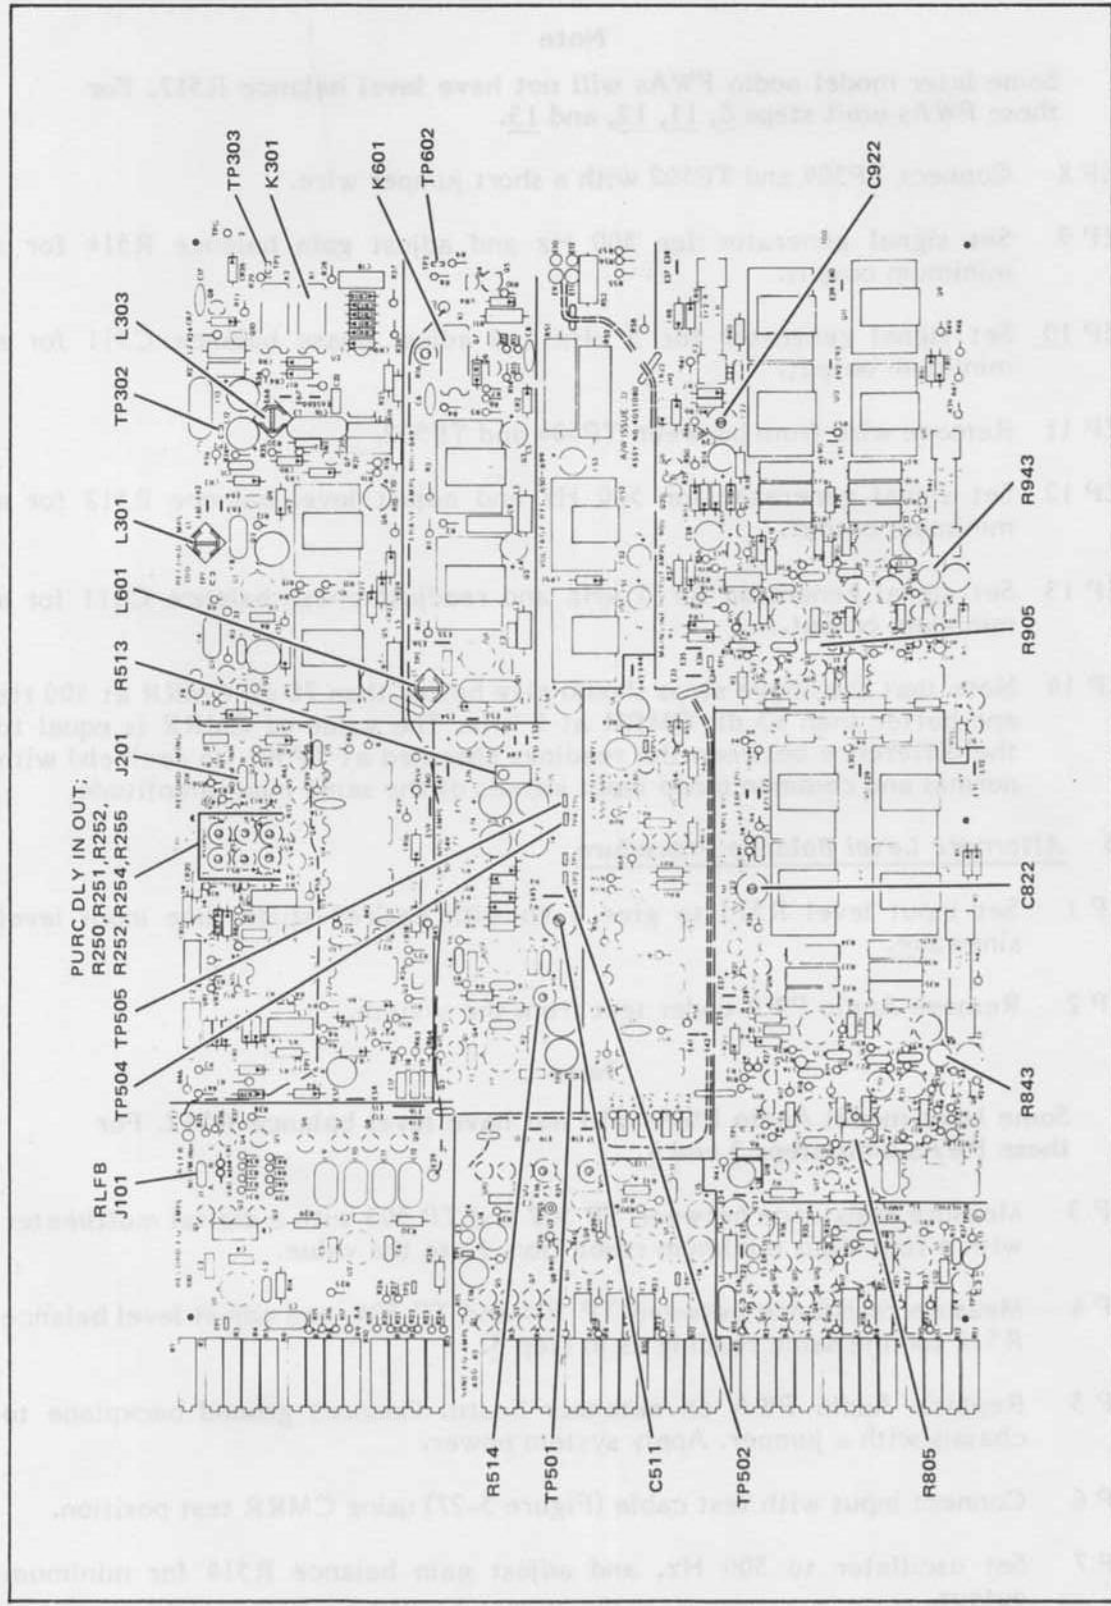

Figure 5-26. Audio PWA Assembly No. 4051080 Adjustments, Jumpers, and Test Points
- STEP 5 Short line hi and line lo inputs together for channel being adjusted. Note: A plug can be made up for this test procedure (see Figure 5-26).